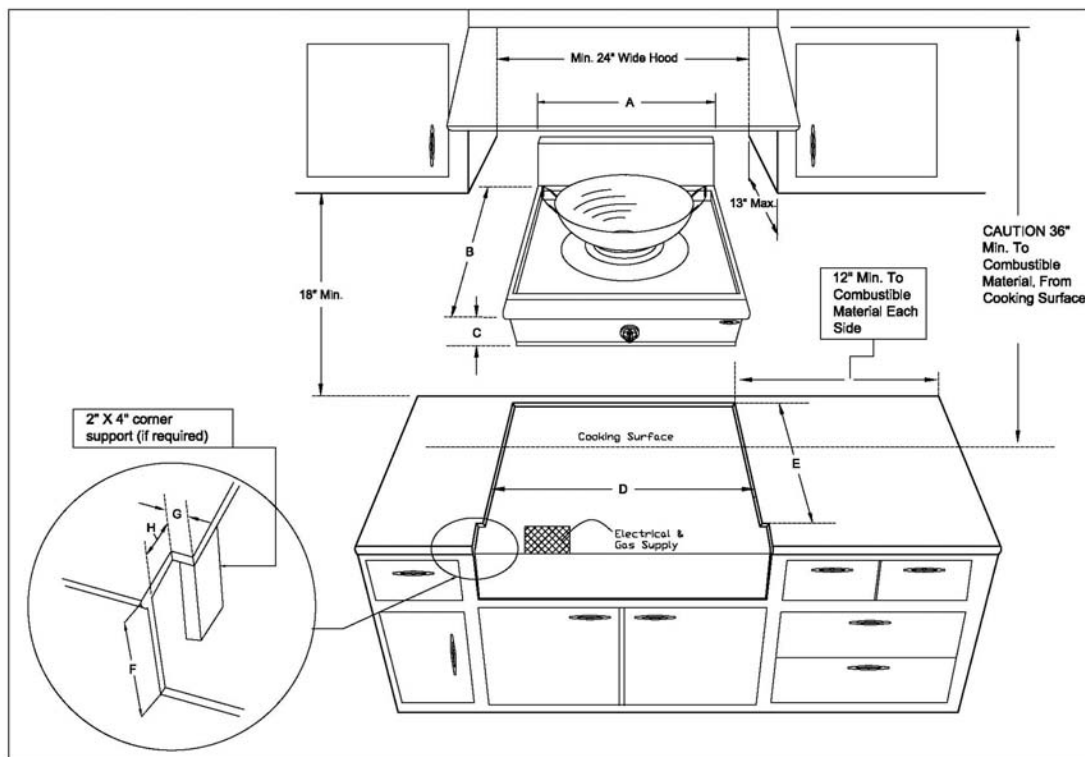

FIG 1
- 3) The wok is designed to hang from the countertop from its side flanges. The countertop must be strong enough to support this heavy wok. It may be necessary to add a supporting cleat along each side or another form of support such as a 2" x 4" corner brace on each side or a deck to set the wok on. See Fig. 1.